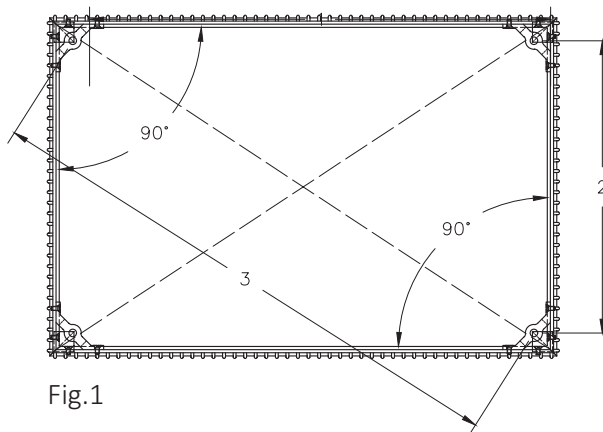

Fig.1
1. Take the dimensions between (D) chain loops 1, 2 and 3 project them to the ceiling. (Fig.1).